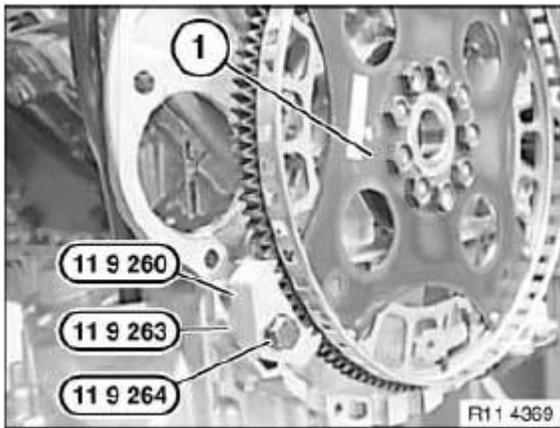

Fig. 129: Identifying Flywheel With Special Tools
Block flywheel (1) with special tool 11 9 260, use an old transmission screw for this purpose. See Fig. 129.